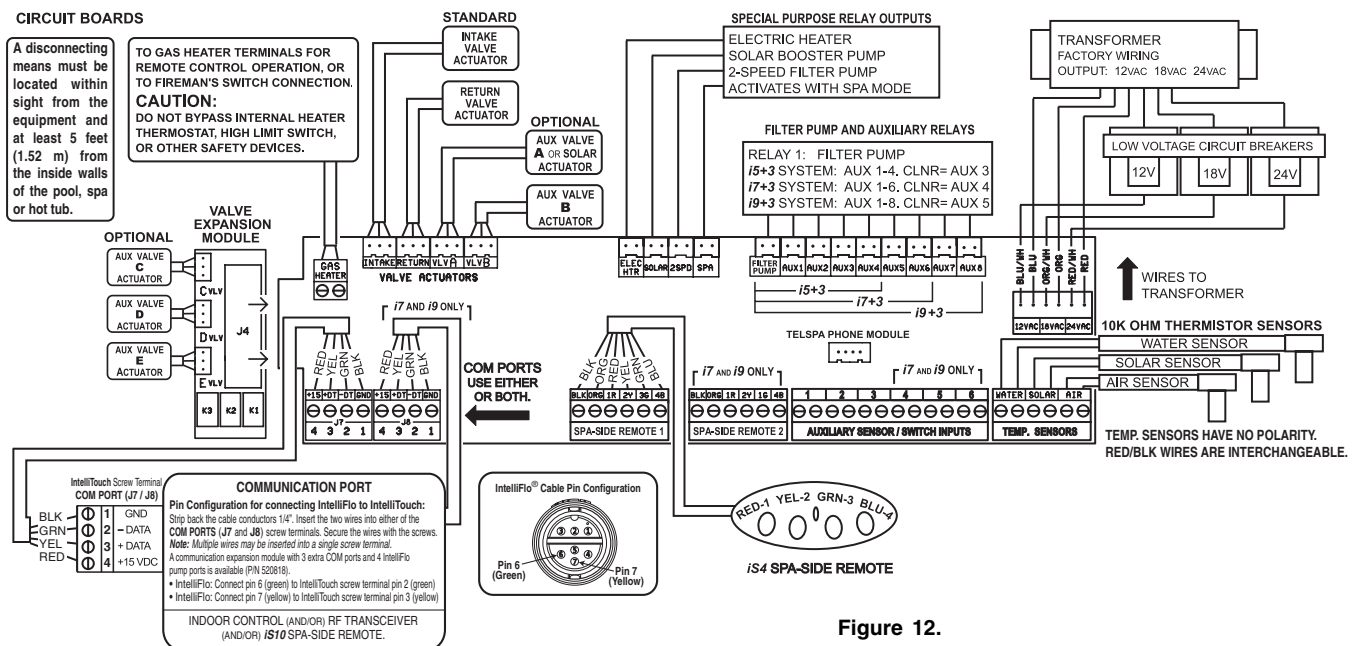

Figure 12.
5. Route the cable up through the low voltage raceway located on the left of the Load Center to the Personality Board, see Figure 12.